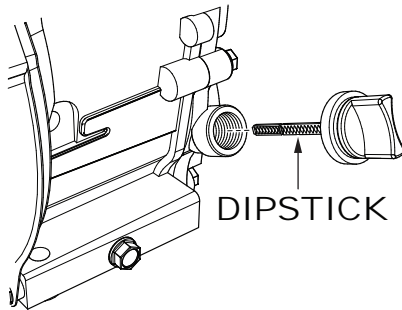

Figure 23. Engine Oil Dipstick
2. Remove the dipstick (Figure 23) from the engine oil filler hole and wipe it clean.